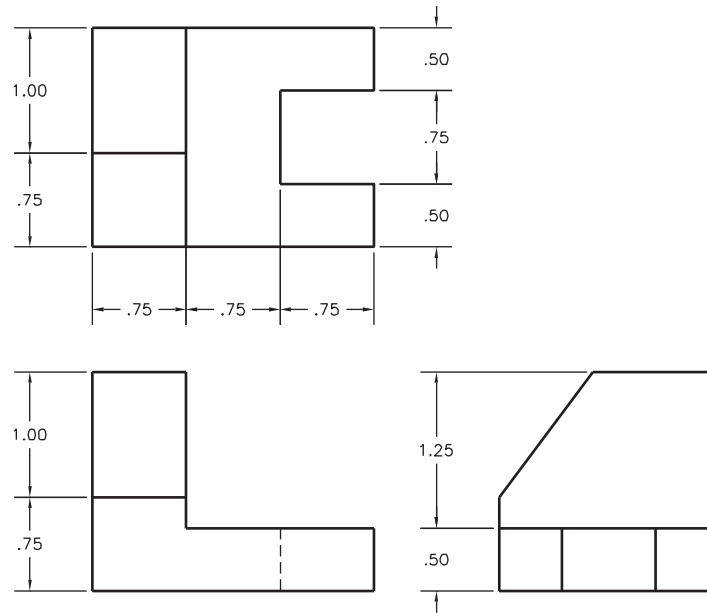

Fig. 14-5
2. Draw each of the views shown in Fig. 14-5 using the dimensions shown. However, do not include the dimensions on the drawing. Zoom in on one of the views and store it as a named view. Then pan to each of the other views and store each as a named view. Restore each named view and alter each shape. Be as creative as you wish, but be certain that all three of the views are consistent with one another.